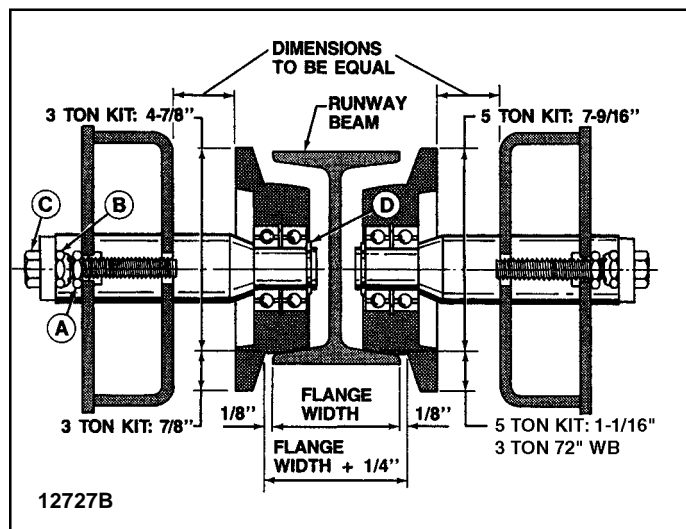

Figure 5.
1. Open End Runway. If one end of the crane runway is open and no interference is encountered the crane bridge can be placed on the end of the runway. First check distance between wheels. The distance between the inside faces of the wheel flanges should be the width of the bottom flange of the runway beam plus 1/4". See Figure 5. Note also that the dimensions from the back of the wheels to the sides of the truck should be equal as shown in Figure 5. If wheel adjustment is required, see paragraph 5. If wheels do not require adjusting, lift crane bridge so that wheels are level with contact surface on runway beam. Carefully move crane bridge onto runway.
3. Runway beam flange width 3-3/8" or less. Refer to Figure 5. Loosen jam nut "A" and self-locking nut "B". Back axle and wheel out against truck side by turning bolt "C". Lift crane bridge to runway level and secure. See paragraph 5 for wheel adjustment.
4. Wheel Removal. If the methods above are not possible, the crane bridge wheels must be removed. Refer to Figure 5. Loosen jam nut "A" and self-locking nut "B". Back axle and wheel out to truck side by turning bolt "C". Remove retaining ring "D". Hold wheel to keep from falling, back out bolt "C" until clear, and remove axle and wheel. Remove all wheels. Lift crane bridge to runway level and secure. Reinstall wheels in reverse order of removal. See paragraph 5 for wheel adjustment.
5. Wheel Adjustment. Measure the width of the bottom flange of the runway beam and add 1/4". This is to be the dimension between the inside faces of the wheel flanges as shown in Figure 5. Lift or jack up truck from runway beam (to remove weight from wheels) and adequately secure. Loosen jam nut "A" and self-locking nut "B" and adjust bolt "C" on a set of wheels to get the proper dimension between wheel flanges and to maintain equal dimensions from the back of the wheels to the side of the truck as shown in Figure 5. Securely tighten jam nut "A" and self-locking nut "B". After all wheels are adjusted, lower truck to runway and check clearance between wheel flange and edge of beam (1/8").